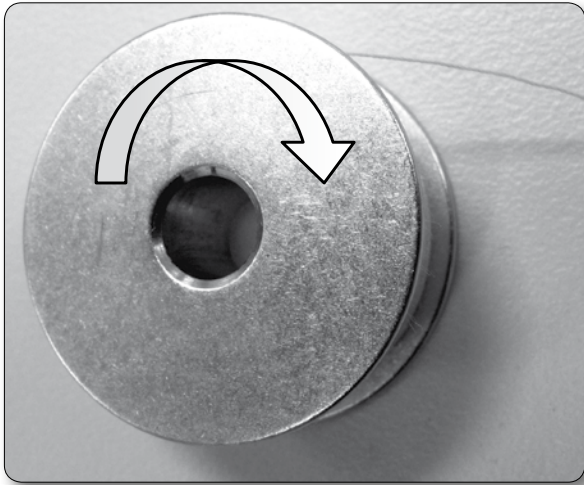

Figure 11
1. Place the bobbin in the bobbin case so that the thread pulls off clockwise when viewing the open side (Figure 11).